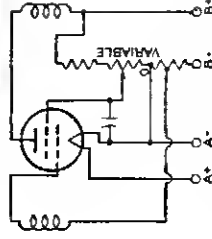

Fig. 88
The positive voltage for the screen grid (grid No. 2) of screen-grid tubes may be obtained from a tap on a voltage divider, from a potentiometer, or from a series resistor connected to a high-voltage source, depending on the particular tube type and its application. The screen-grid voltage for tetrodes should be obtained from a voltage divider or a potentiometer rather than through a series resistor from a high-voltage source because of the characteristic screen-grid current variations of tetrodes. Fig. 88 shows a tetrode with its screen-grid voltage obtained from a potentiometer.
**Screen-grid voltage variation** for the rf amplifier stages has sometimes been used for volume control in older-type receivers. Reduced screen-grid voltage lowers the transconductance of the tube and results in reduced gain per stage. The voltage variation is obtained by means of a potentiometer shunted across the screen-grid voltage supply. (See Fig. 88.) When the screen-grid voltage is varied, it must never exceed the rating of the tube. This requirement can be met by providing a fixed stop on the potentiometer.